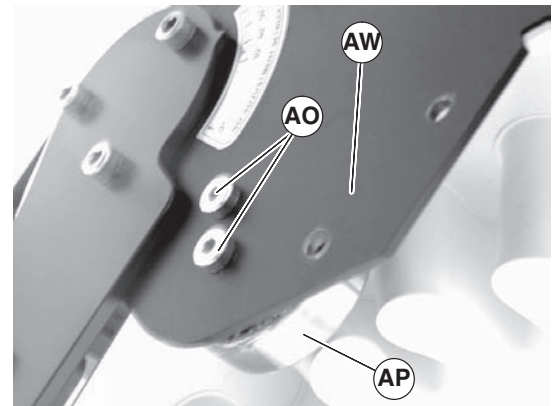

Figure 29
- If equipped, install return roller bearing (Figure 29, item AP) into knuckle plate (AW) using screws (AO).